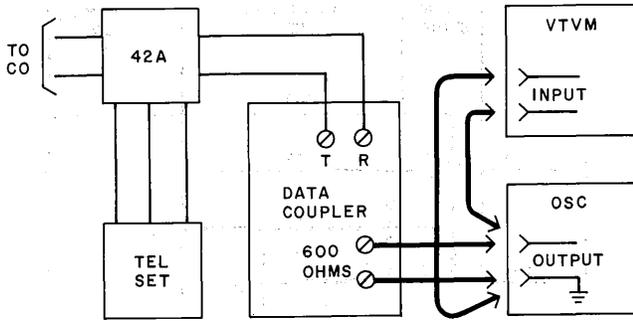

Fig. 8—Test Equipment Connection Diagram
- (1) Adjust the oscillator for a 1000-Hz frequency and a 600-ohm output impedance.
- (2) Adjust the VTVM to measure -15 dBm.
- (3) Connect the test equipment as shown in Fig. 8.
- (4) Dial a "quiet termination" to connect central office battery to the telephone line.
- (5) Operate the data key to connect the data coupler to the line.
- (6) Adjust the oscillator output level to produce a -15 dBm indication on the VTVM.
- (7) Slowly increase the oscillator output level while watching the VTVM. The VTVM indication should track with the increase in level until the threshold of limiting is reached. At this point, the VTVM indication will abruptly **decrease**. The VTVM indication may slowly oscillate around the limiting level.